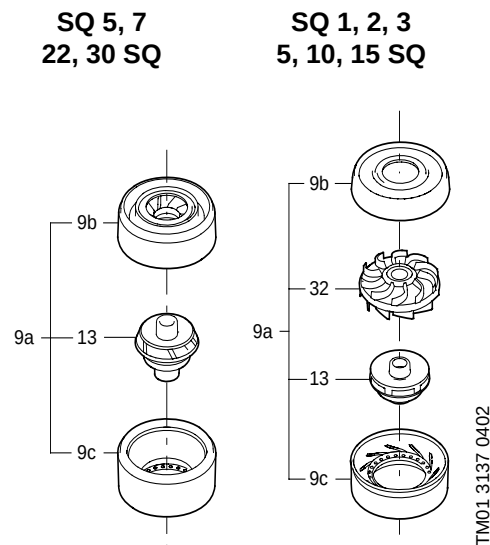

Fig. 4. Assembly of chamber
- Before assembling the chamber stack, assemble the chamber parts into a unit: chamber complete, see Fig. 4.